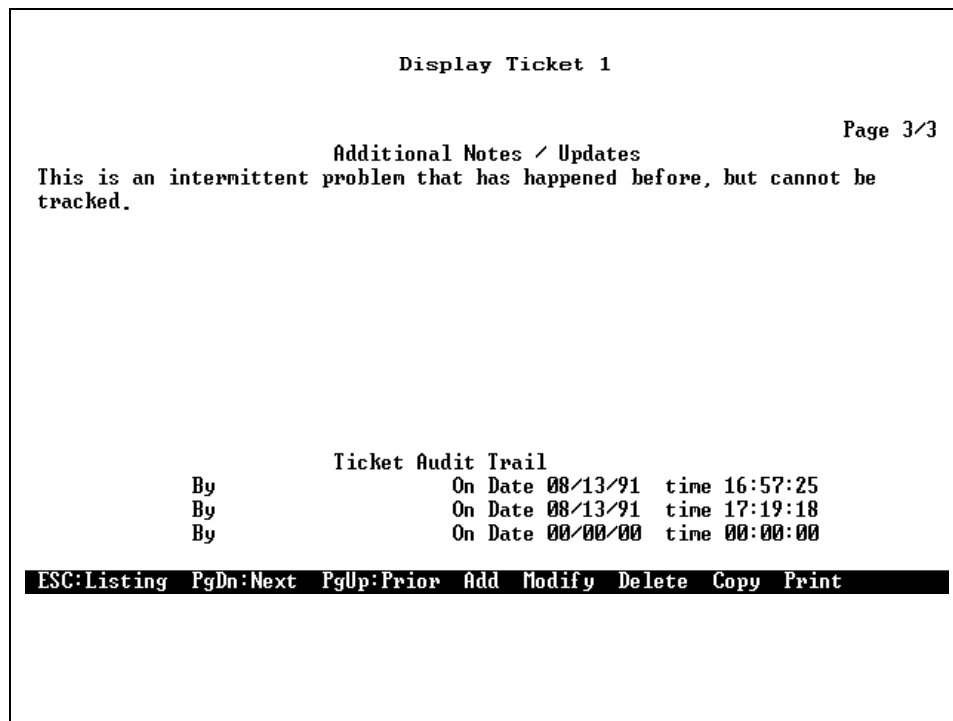

Figure 2-5. Display Ticket Page 3
7. Press [PGDN] to display the third page of the ticket. The third page contains a field for updates and ticket modification history. This is a free text area that affects the ticket that you are working on (refer to Figure 2-5 for an example).